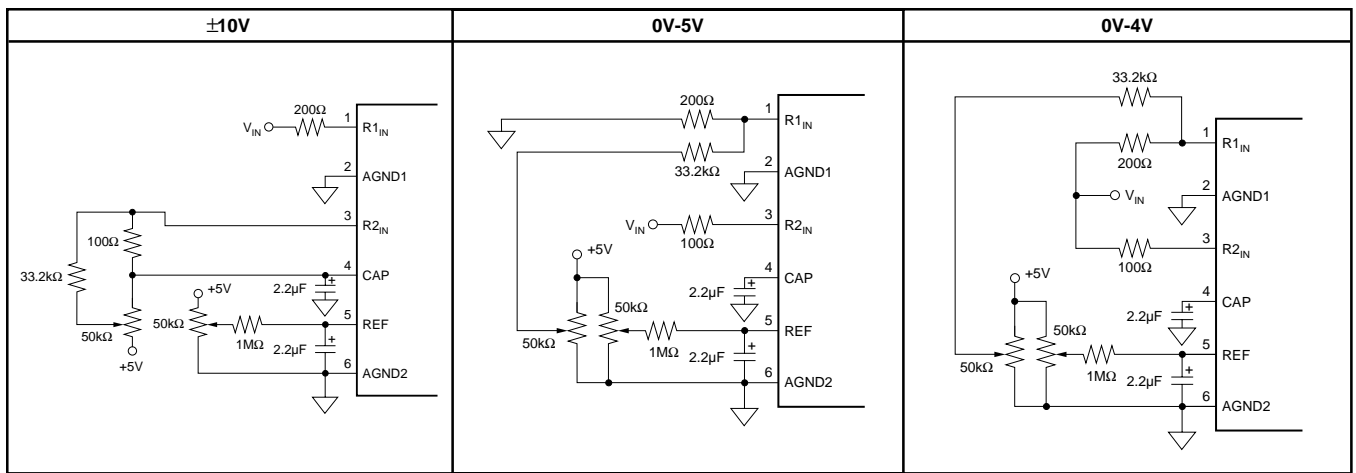
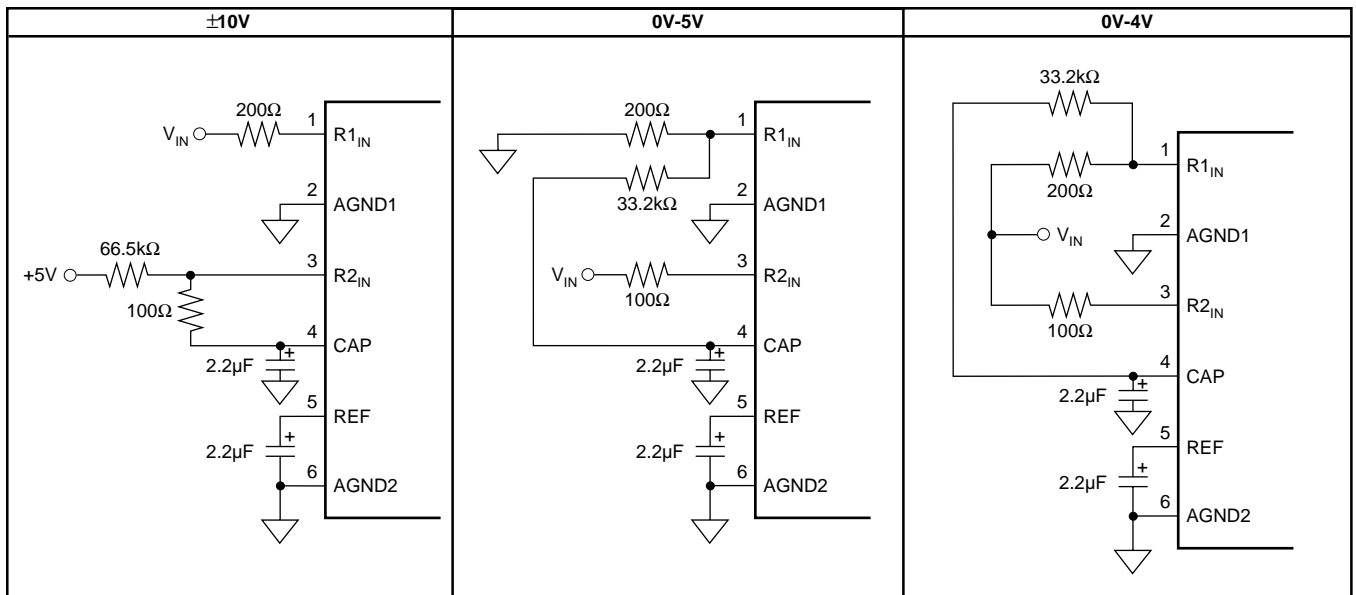
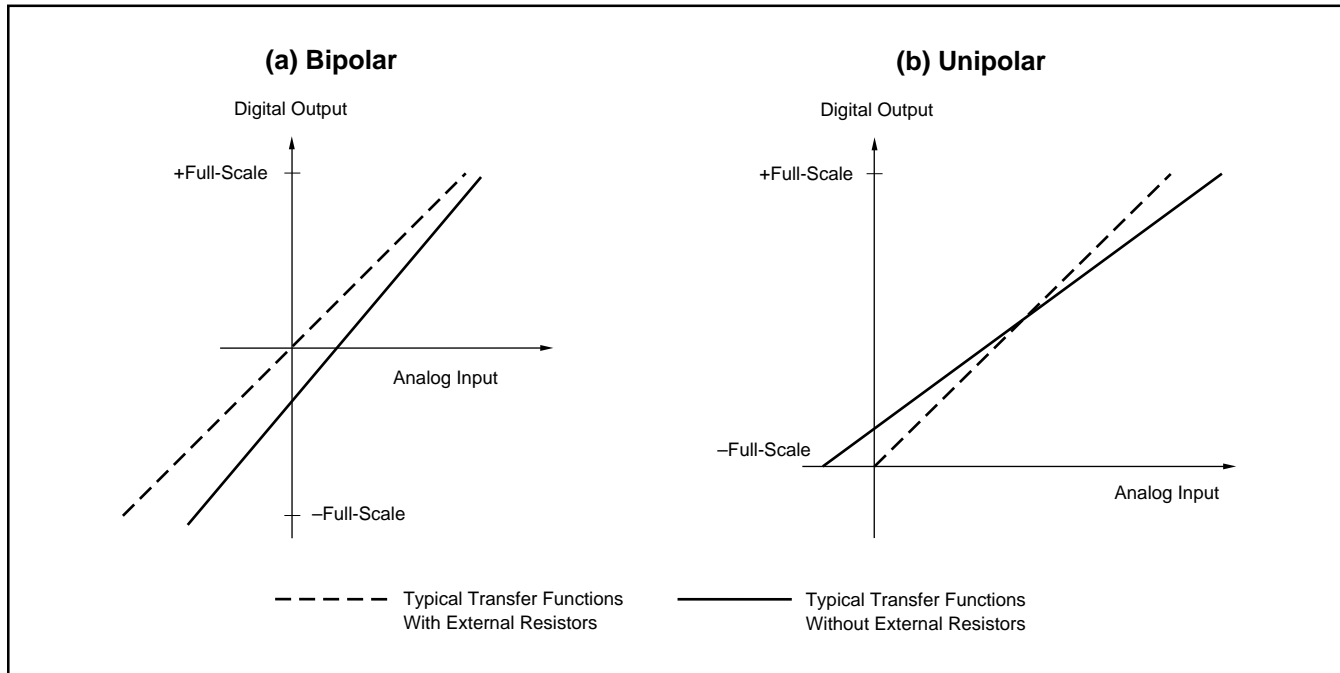

FIGURE 7a. Circuit Diagrams (With Hardware Trim).
FIGURE 7b. Circuit Diagrams (Without Hardware Trim).
FIGURE 8. Typical Transfer Functions With and Without External Resistors.
The ADS7807 offers three input ranges: standard ±10V and 0V-5V, and a 0V-4V range for complete, single-supply systems. See Figures 7a and 7b for the necessary circuit connections for implementing each input range and optional offset and gain adjust circuitry. Offset and full-scale error(1) specifications are tested with the fixed resistors, see Figure 7b. Adjustments for offset and gain are described in the **Calibration** section of this data sheet.
The input impedance, summarized in Table II, results from the combination of the internal resistor network (see the front page of this product data sheet) and the external resistors used for each input range (see Figure 8). The input resistor divider network provides inherent over-voltage protection to at least ±5.5V for R2IN and ±12V for R1IN.
To calibrate the offset and gain of the ADS7807 in hardware, install the resistors shown in Figure 7a. Table VI lists the hardware trim ranges relative to the input for each input range.
TABLE VI. Offset and Gain Adjust Ranges for Hardware Calibration (see Figure 7a).
To calibrate the offset and gain in software, no external resistors are required. However, to get the data sheet specifications for offset and gain, the resistors shown in Figure 7b are necessary. See the **No Calibration** section for more details on the external resistors. Refer to Table VIII for the range of offset and gain errors with and without the external resistors.
Figure 7b shows circuit connections. Note that the actual voltage dropped across the external resistors is at least two orders of magnitude lower than the voltage dropped across the internal resistor divider network. This should be considered when choosing the accuracy and drift specifications of the external resistors. In most applications, 1% metal-film resistors will be sufficient.
The external resistors (see Figure 7b) may not be necessary in some applications. These resistors provide compensation for an internal adjustment of the offset and gain which allows calibration with a single supply. Not using the external resistors will result in offset and gain errors in addition to those listed in the **Electrical Characteristics** section. Offset refers to the equivalent voltage of the digital output when converting with the input grounded. A positive gain error occurs when the equivalent output voltage of the digital output is larger than the analog input. Refer to Table VII for nominal ranges of gain and offset errors with and without the external resistors. Refer to Figure 8 for typical shifts in the transfer functions which occur when the external resistors are removed.